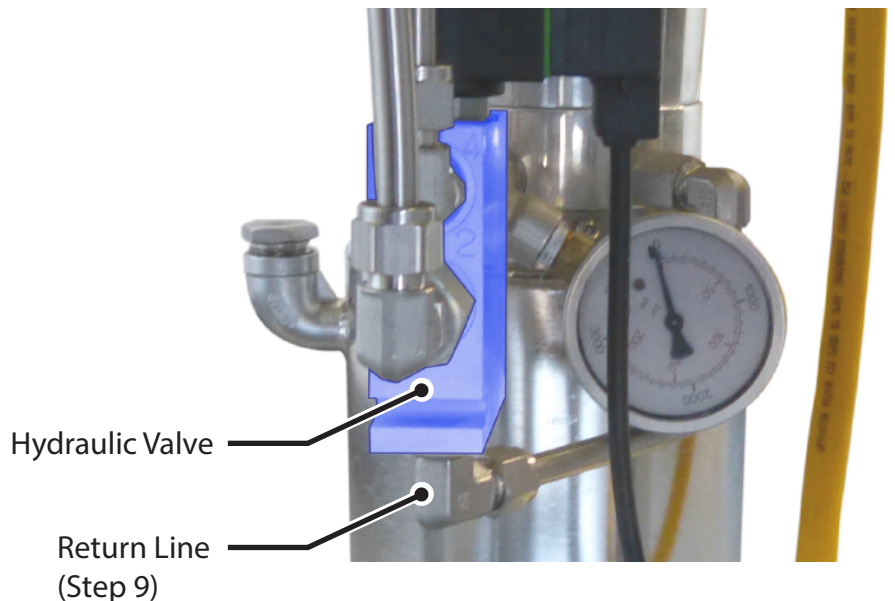

Figure 9: Hydraulic Valve
8. Place an open container on the floor beneath the hydraulic valve (See **Figure 9**). This container must be able to accommodate at least 1-2 gallons of fluid.
9. Use an 11/16" wrench to remove the Return Line (on the bottom of the valve) that leads to the "T" port on the hydraulic pump. (See **Figure 9**).